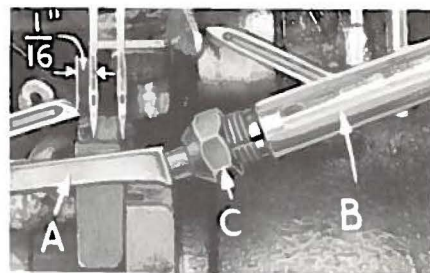

Fig. 6
At this point, insert lower looper (A, Fig. 6) into bar (B). With the lower looper at the left end of its stroke, set looper point $1/16$ inch from center of left needle (Fig. 6), using looper gauge No. 21225-1/16. Do not have lower looper deflecting needle. Tighten nut (C).